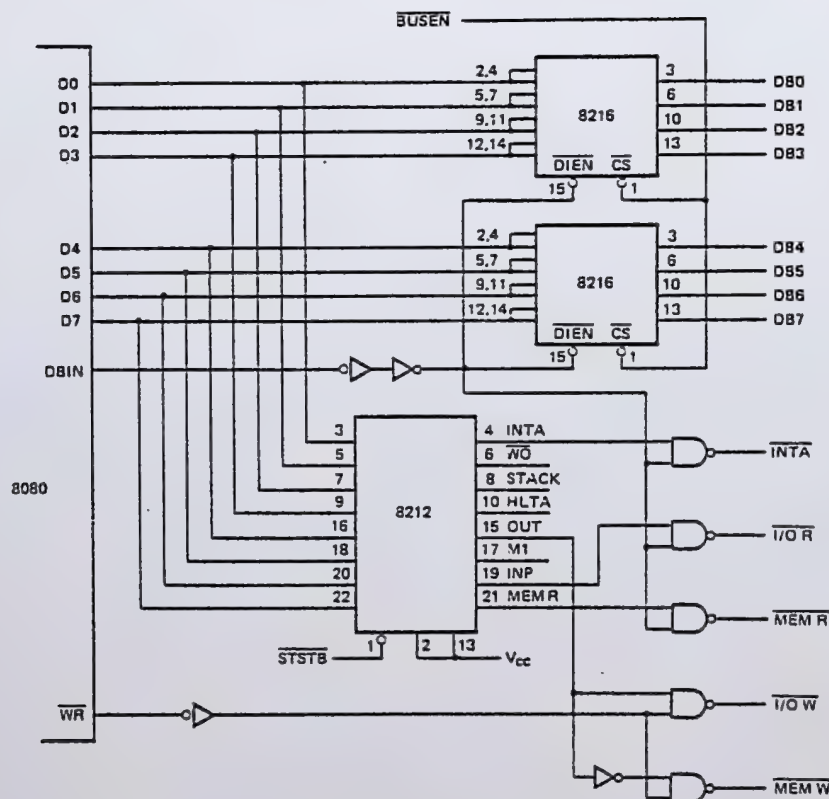

Figure 3-5. 8080 System Control
A pair of 8216's are connected directly to the 8080 Data Bus (D7-D0) as shown in figure 3-5. Note that the DBIN signal from the 8080 is connected to the direction control input (\overline{DIEN}) so the correct flow of data on the bus is maintained. The chip select (\overline{CS}) of the 8216 is connected to BUS ENABLE (\overline{BUSEN}) to allow for DMA activities by deselecting the Data Bus Buffer and forcing the outputs of the 8216's into their high impedance (3-state) mode. This allows other devices to gain access to the data bus (DMA).
As described previously, the 8080 issues Status information at the beginning of each Machine Cycle on its Data Bus to indicate what operation will take place during that cycle. A simple (8) bit latch, like an INTEL[®] 8212, connected directly to the 8080 Data Bus (D7-D0) as shown in figure 3-5 will store the